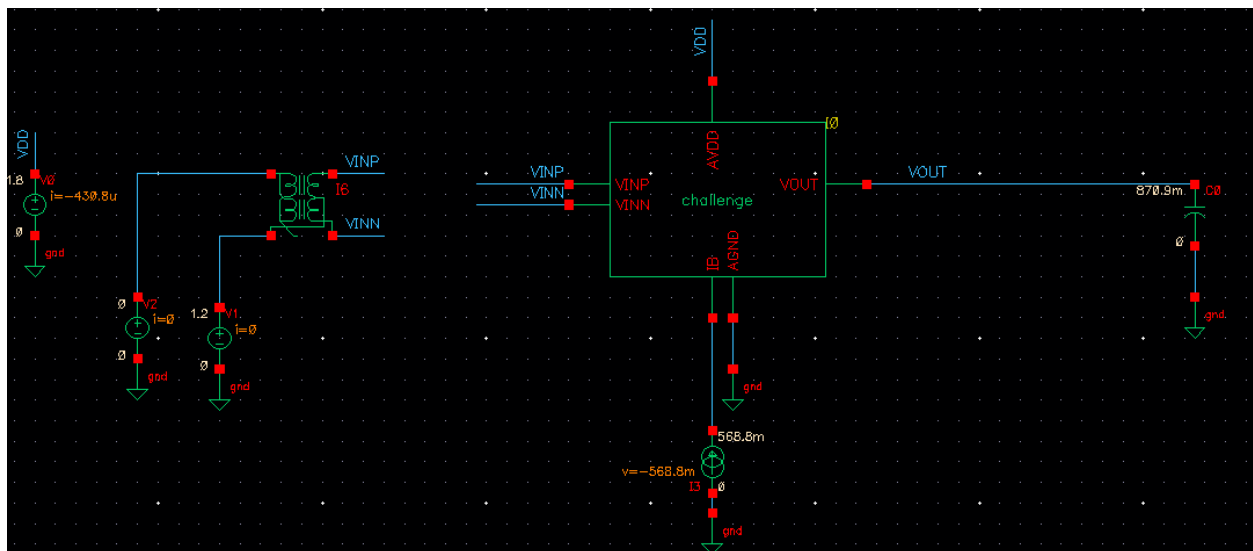

Figure 2.1
-I created a testbench as shown in figure 2.1.